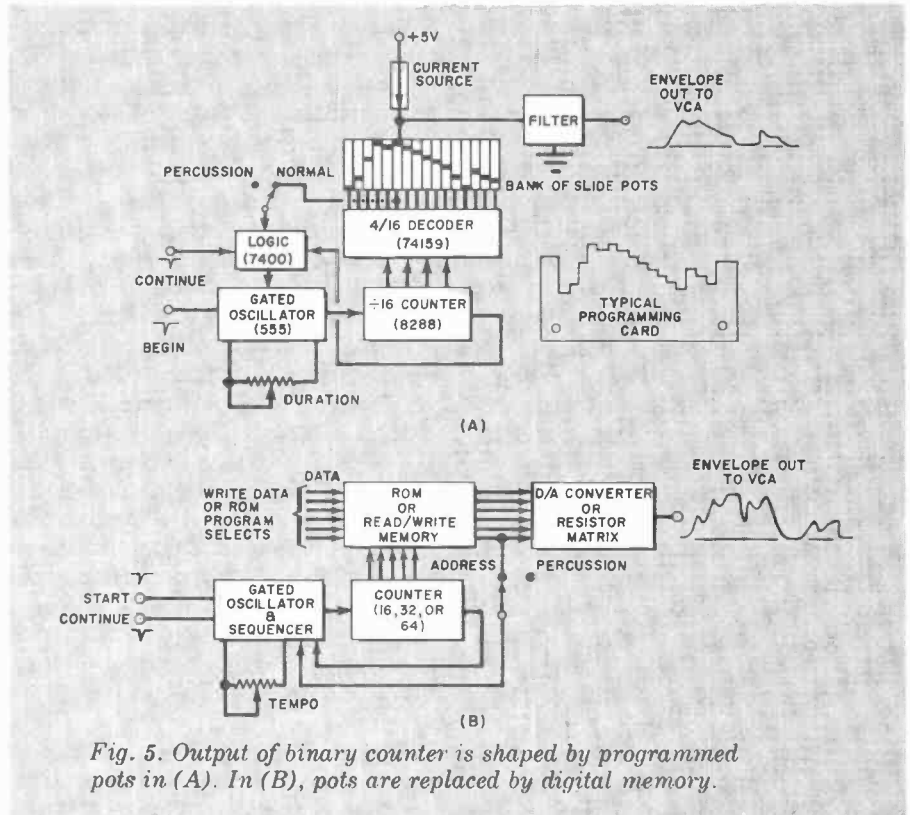
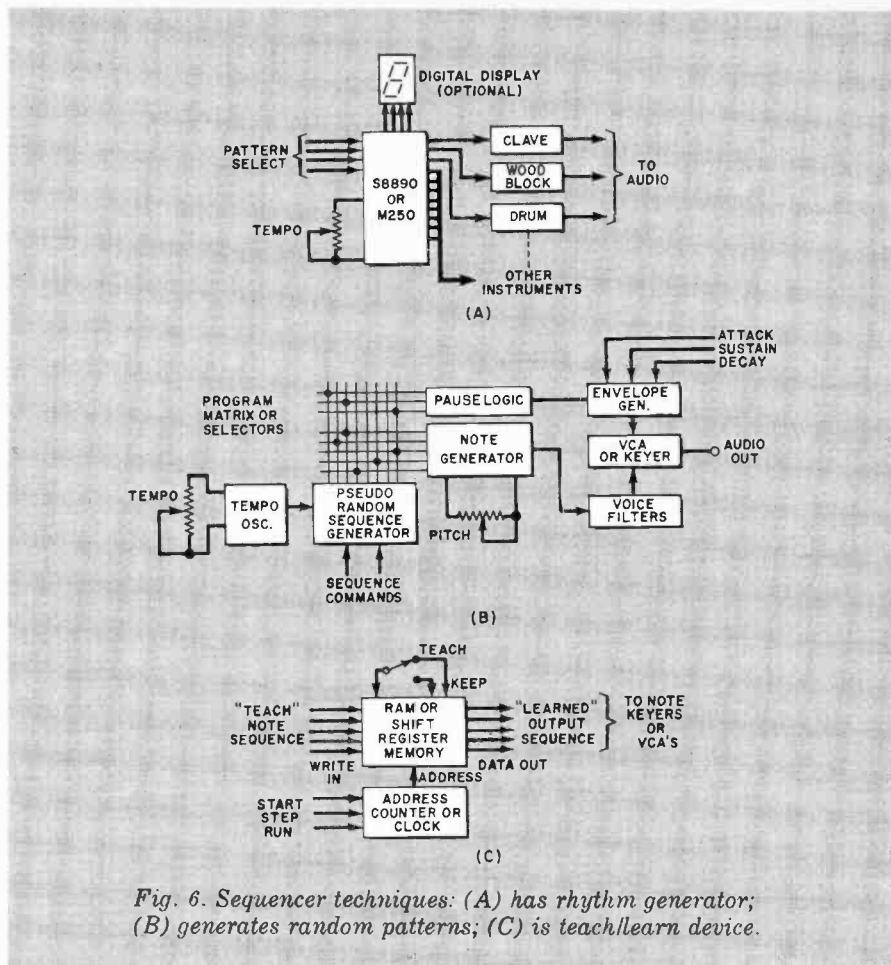

Fig. 5. Output of binary counter is shaped by programmed pots in (A). In (B), pots are replaced by digital memory.
Fig. 6. Sequencer techniques: (A) has rhythm generator; (B) generates random patterns; (C) is teach/learn device.
Purely digital techniques can also be used for generating the envelope, but as of now, their added complexity limits them to monophonic instruments or, at best, to a time-shared or priority hierarchy in an instrument. Two typical digital circuits are shown in Fig. 5.
Sequencers. Three popular sequencer techniques are shown in Fig. 6. A sequencer governs the order and combinations the notes follow, rather than the shape of each individual note. Technique (A) has a rhythm generator or sideman. An early version of these circuits appeared in POPULAR ELECTRONICS as the "Drummer Boy" (July 1971). Today, you can do the whole thing with a single S8890 IC from American Microsystems, Inc. (3800 Homestead Rd., Santa Clara, CA 95051) or the M250 IC from SGS-ATES (435 Newtonville Ave., Newtonville, MA 02160). The IC's are available at about \$25 in unit quantities. Both IC's generate the combination rhythm patterns for rhythm accompaniment and are available in a standard pattern (traditional rhythms) as well as in custom patterns at much higher cost. Electrically, the IC's operate in much the same manner as circuit (B) in Fig. 5.
Circuit (B) in Fig. 6 is a composer/synthesizer that employs a pseudo-random sequencer to generate ran-
Circuit (C) in Fig. 6, a variation of circuit (B) in Fig. 5, is a teach/learn sequencer. A commercial version called the Model DS-2 is available from Oberheim Electronics (1549 Ninth St., Santa Monica, CA 90401). Teach/learn devices of this type can employ either RAM's or shift-register memories. One good choice for experimenters would be the Signetics hex 32- and hex 40-bit shift registers (2518 and 2519), particularly since they are beginning to appear on the so-called "surplus" market for as little as 25¢ each. Brand new IC's directly from the factory are currently selling for less than \$5 and form the basis for many teach/learn music experiments.